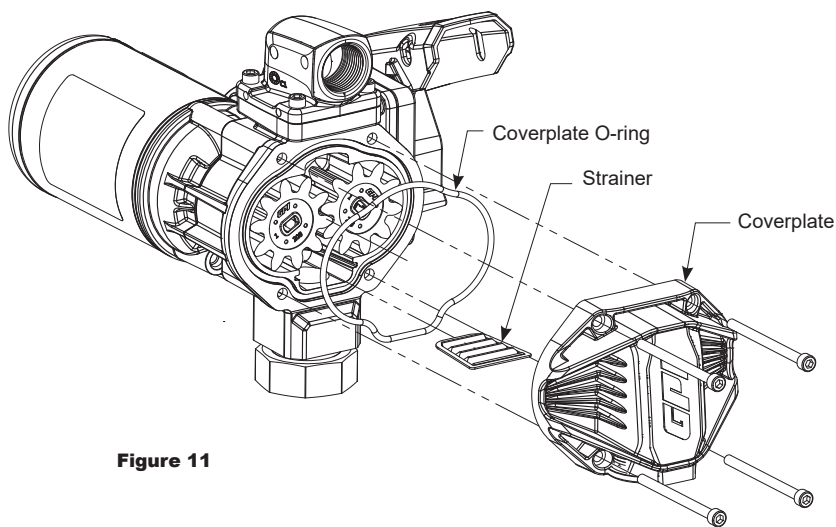

Figure 11
1. Turn the pump off and disconnect from power. Using 5mm hex wrench, remove the coverplate, O-ring, and inlet strainer and inspect for damage or clogs (see Figure 11). Clean the strainer with a soft-bristled brush and solvent. If the strainer is very dirty, compressed air may be used. If damaged, replace the strainer.